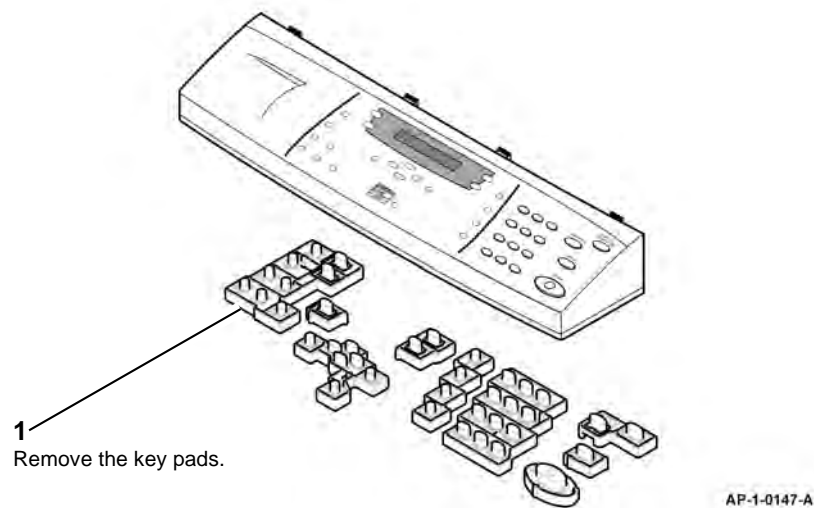

Figure 3 Key pads removal
4. Remove the key pads, Figure 3.